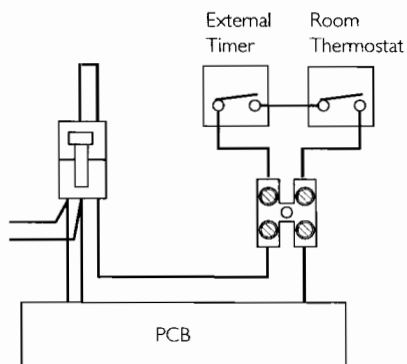

Fig. 30a
1. To fit a 2-wire thermostat, remove link and wire the thermostat switch between positions 1 & 2 (Figs. 30a). A cable clamp is provided for incoming cables.